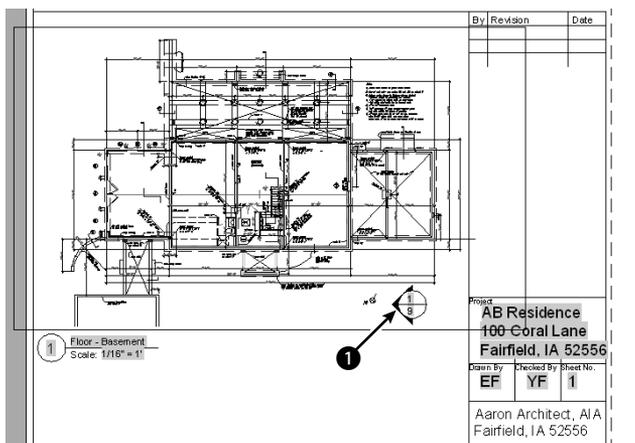

Figure 26-27: The basement floor plan.
5. Click the Resource Drawings tab again. Right-click Floor - Basement and choose Place on Sheet. Move the cursor onto the drawing area. (You may want to auto-hide the Sheet Set Manager at this point.) Right-click and choose 1/16"=1'. Place the viewport all the way to the left of the layout. (The view doesn't fit perfectly, but that's okay for this exercise.) The result should look like Figure 26-27, except without the callout block. (If you want, continue to place the floor-plan views on the floor-plan sheets, matching the 1st and 2nd floor views to the 1st and 2nd floor sheets. You can also do the same for the four elevation views.)
8. To place a callout bubble on the basement floor plan that references the Exterior Section sheet, click the tab on the Windows taskbar for the basement floor plan to display that drawing. Click the View List tab. This tab now lists the views that you just placed. Right-click the Section 2 view (the one that you're pointing to) and choose Place Callout Blocks ⇨ callout bubble-left arrow. At the prompt, pick ❶ in Figure 26-27. The fields in the callout block show the correct view and sheet numbers.